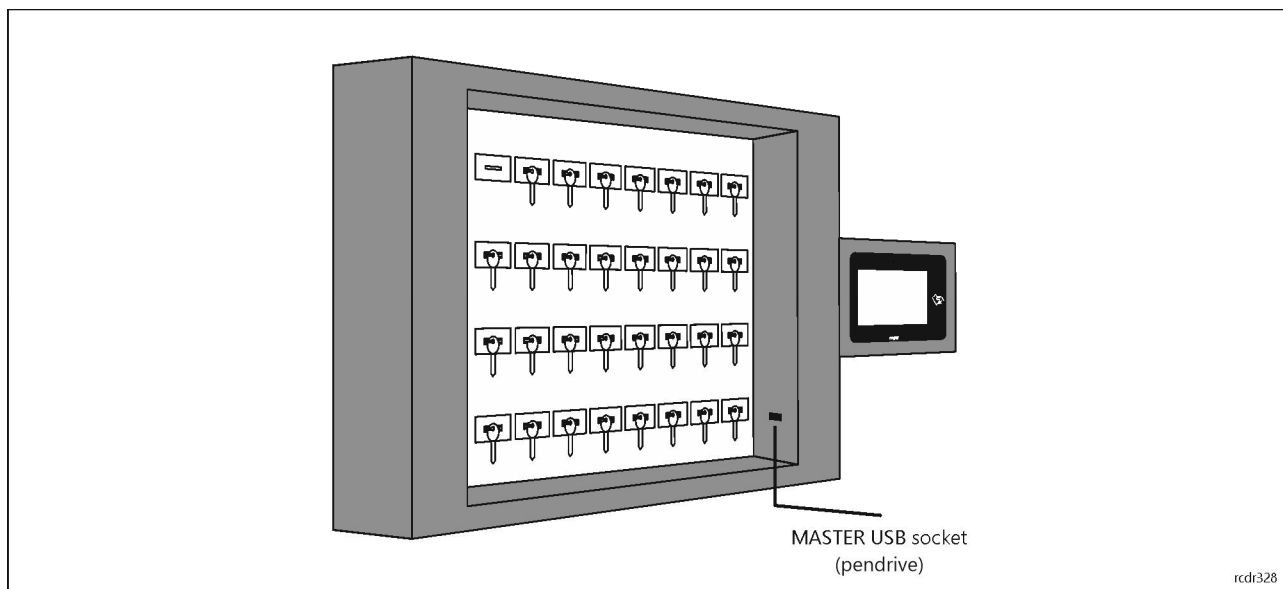
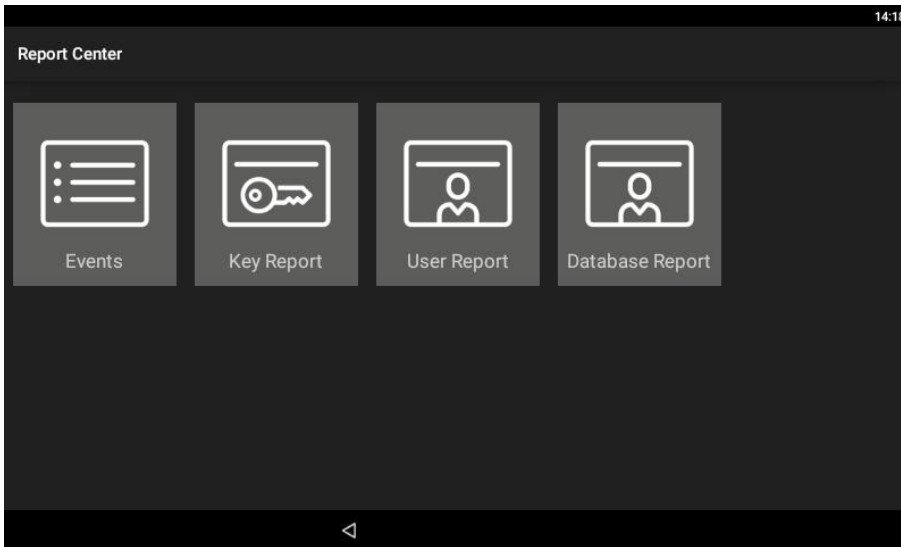

Fig. 9 USB MASTER socket
Fig. 12 Report Centre
* In newer RKD32 models, MASTER socket is available inside key chamber after door opening in the right bottom corner (fig. 9).
When  is selected then Report Center is started as in fig. 12. After selection of Events tile it is possible to browse, events (e.g. user login, key collecting, etc.) and after selection of  in the same window it is possible to delete and export events registered by RDK32. Key Report and User Report enable to display respectively events related to particular key and events related to particular user. In both cases events can be exported. Database Report displays list of users with their cards and PINs and their Authorisations. Events in Report Centre can be exported to pendrive connected to MASTER USB socket (fig. 9), exported to internal memory or sent by email according to settings in *Configuration* window (table 2). Available formats are Excel (XLS) and PDF.